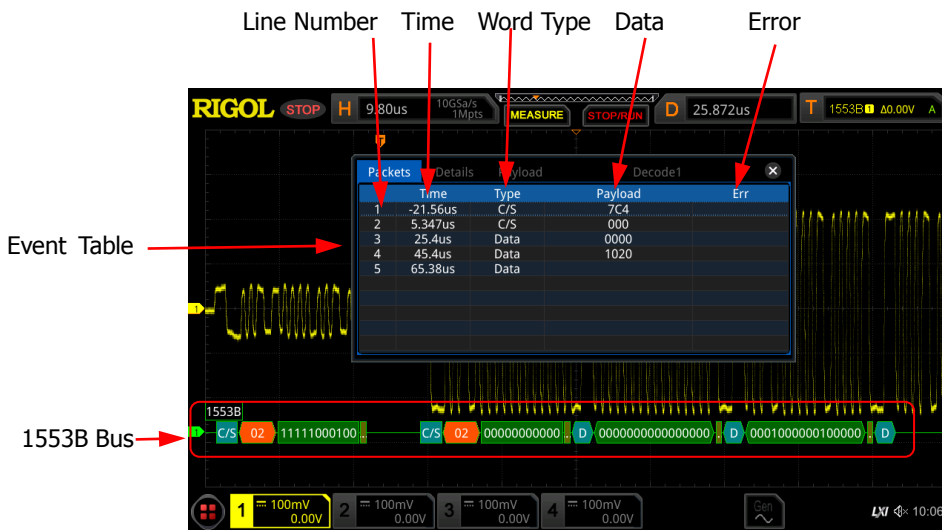

Figure 11-15 1553B Decoding Event Table
- Open or close the event table: Click **Event Table** continuously to enable or disable the event table. When you enable the event table, the following figure is displayed, as shown in Figure 11-15. You can